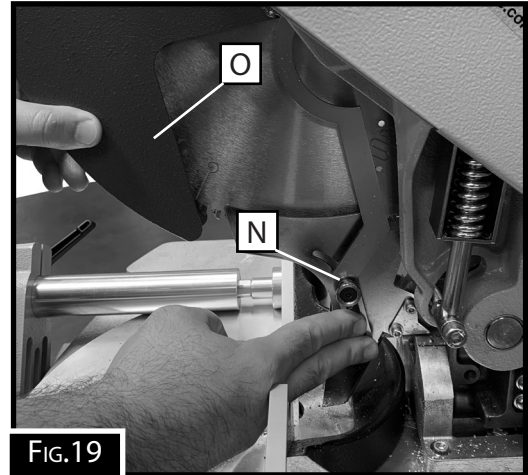

FIG. 19
3. Release the mechanism of the internal guard by pushing the point (N in Fig 19), and push up the guard (O in Fig 19).